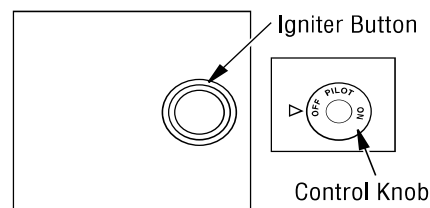

Figure 51 - Control Knob and Igniter Button Location
5. Wait five (5) minutes to clear out any gas. Then smell for gas, including near the floor. If you smell gas, STOP! Follow "B" in the safety information, column 1. If you don't smell gas, go to the next step.
6. Press in and turn control knob counterclockwise  to the PILOT position. Press in control knob for five (5) seconds (see **Figure 51**).